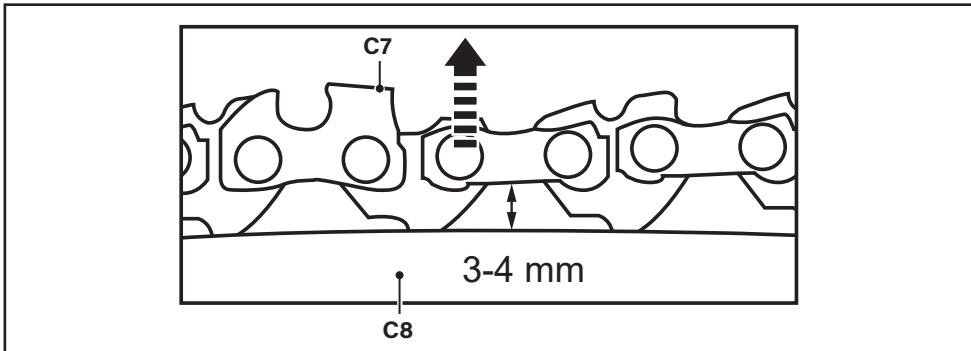

Fig. 6
- Pull the saw chain (C7) along the top of the guide bar (C8) by hand from one end to the other, several times. The chain should feel tight but still move freely. It should be possible to lift up the saw chain 3-4 mm from the guide bar (Fig. 6).